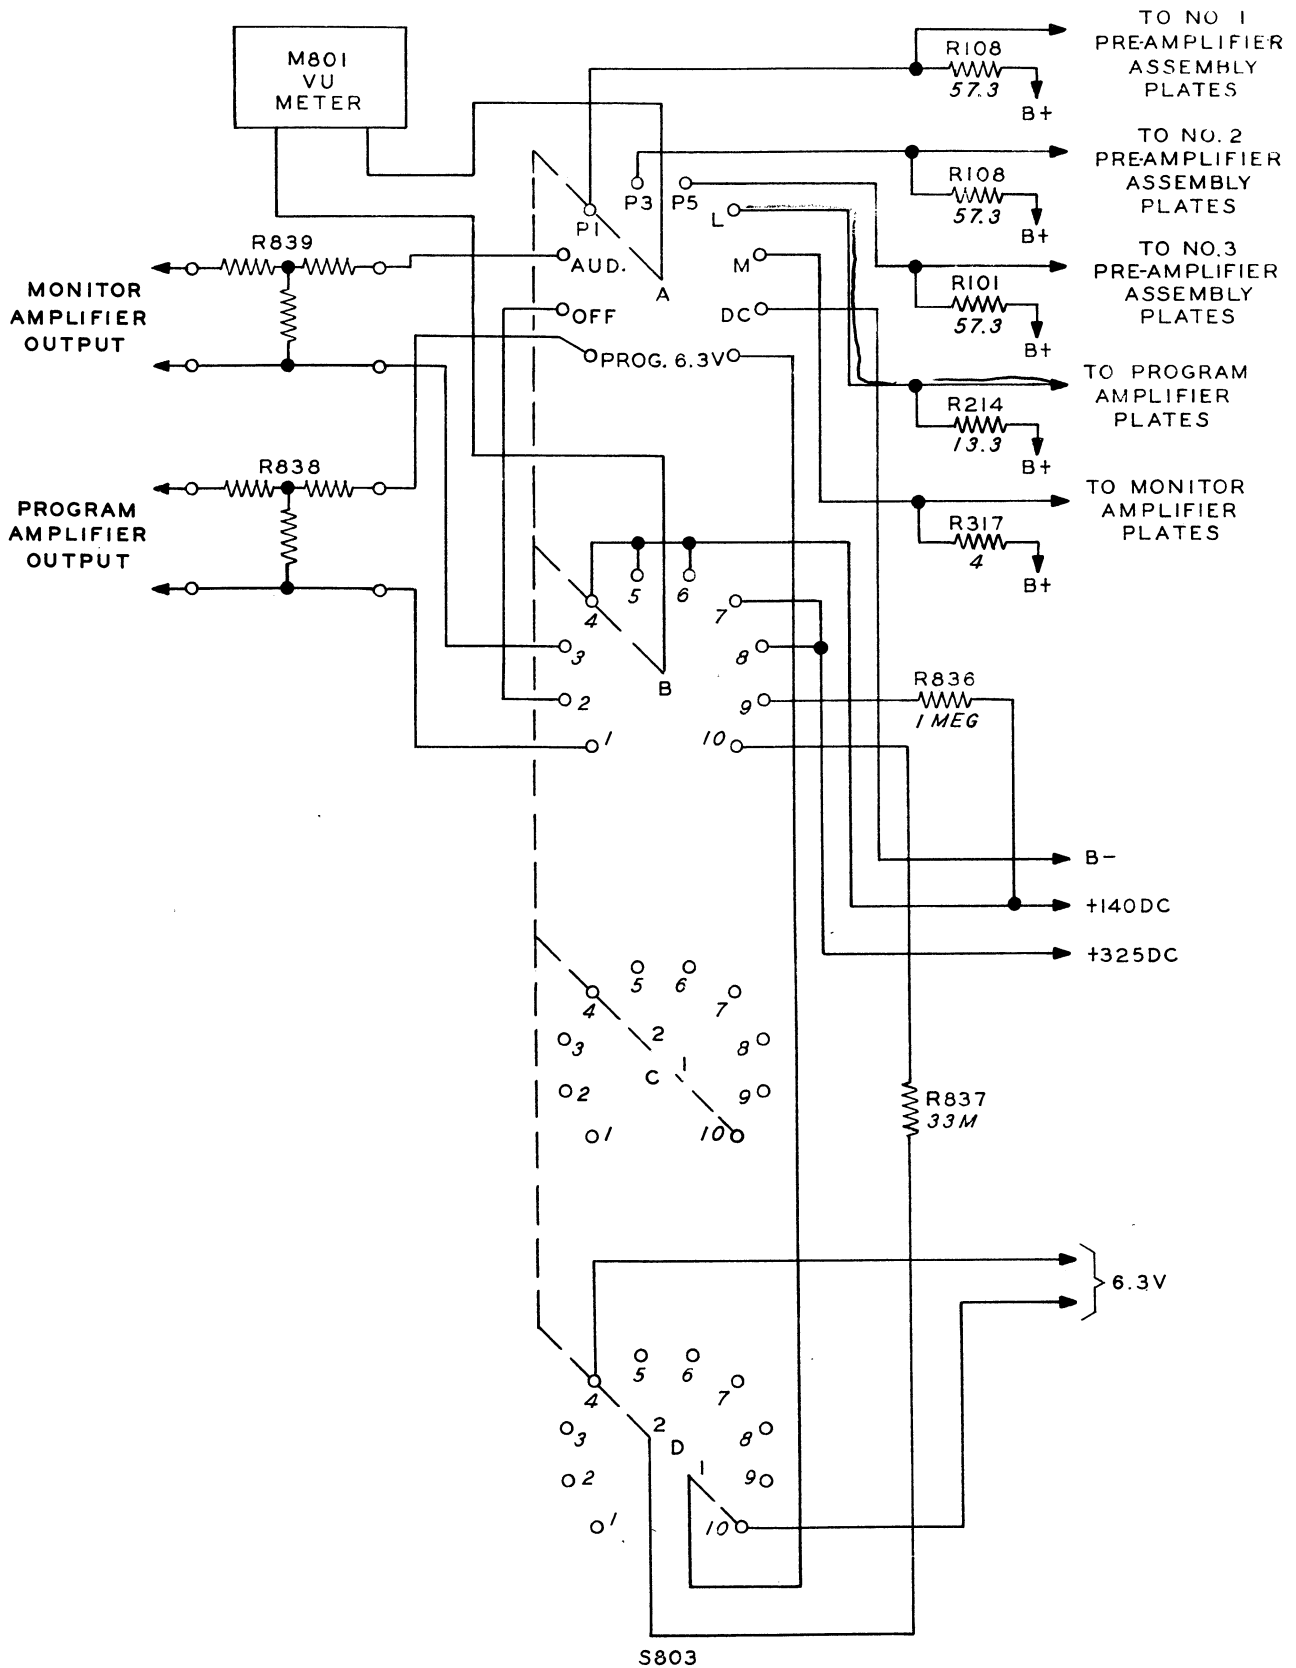

Figure 2-10 Metering Circuits
(11) METTERING CIRCUITS. - A comprehensive metering circuit arrangement provides a continuous visual indication of operating conditions. Refer to figure 2-10. The meter M801 may be connected to give an indication of proper operation of any one of the following by use of the metering selector switch S803: (PROG) Program Channel audio level. (OFF) OFF position (AUD) audition Channel audio level, (P1) pre-amplifier plate current, (P3) pre-amplifier plate current, (P5) pre-amplifier plate current, (L) program amplifier plate current, (M) monitor amplifier plate current (DC) 140-VOLT plate supply (6.3V) filament supply voltage. Resistors R101, R108, R214, R217 operate as shunt resistors. Resistors R836 and R837 are series multipliers for the voltage indications. The meter should read ± 1 db of ZERO for any of the amplifier current or voltage positions. The T pads R838 and R839 are connected across the audio circuits.